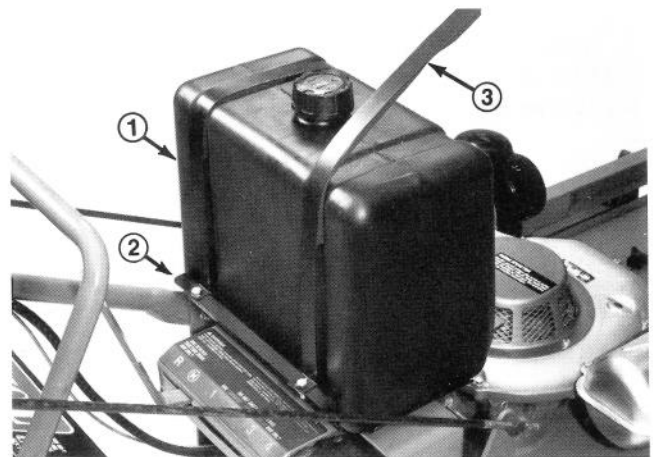

Figure 7
1. Position fuel tank onto mounting plate so fitting opening is to left side (Fig. 7).
2. Secure fuel line straps to rear of fuel tank mounting plate with (2) 1/4-20 x 5/8" lg. capscrews and locknuts (Fig. 7)